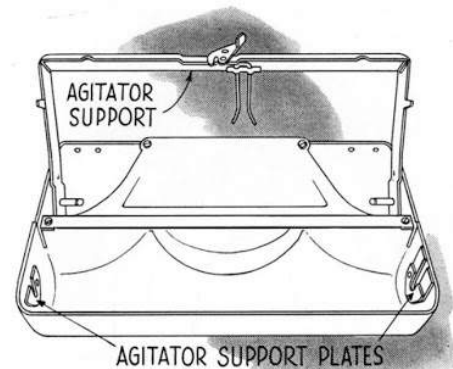

FIG. 79—Agitator support on early Models 543 and 700
1. Figure 79 shows the type of support used on Model 543 under serial number 4,092,000 and on Model 700 under 7,373,000. On these models, agitator support plates are located in the ends of the nozzle. The right-hand plate takes only the flat end of the agitator shaft and the left-hand plate only the round end.